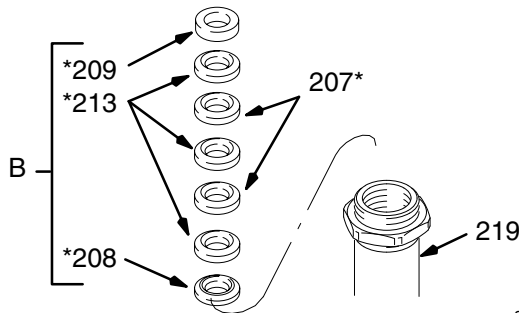

Fig. 31 04231
7. Remove the throat packings and the glands (B). See Fig. 31.